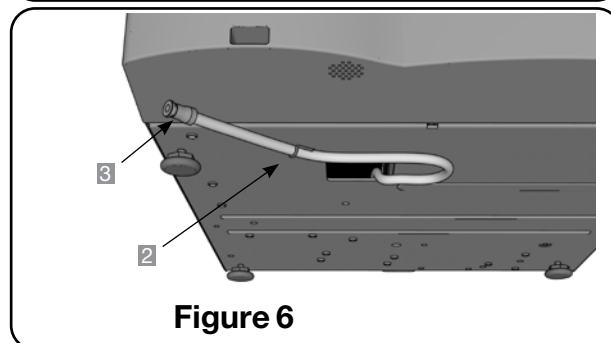

Figure 6
To prime the STAT/M pump, follow these steps (see Figure 6):
2. Using the drain tube (see Section 3.5 Priming the Pump, Figure 6) empty the contents of the reservoir into the water container.